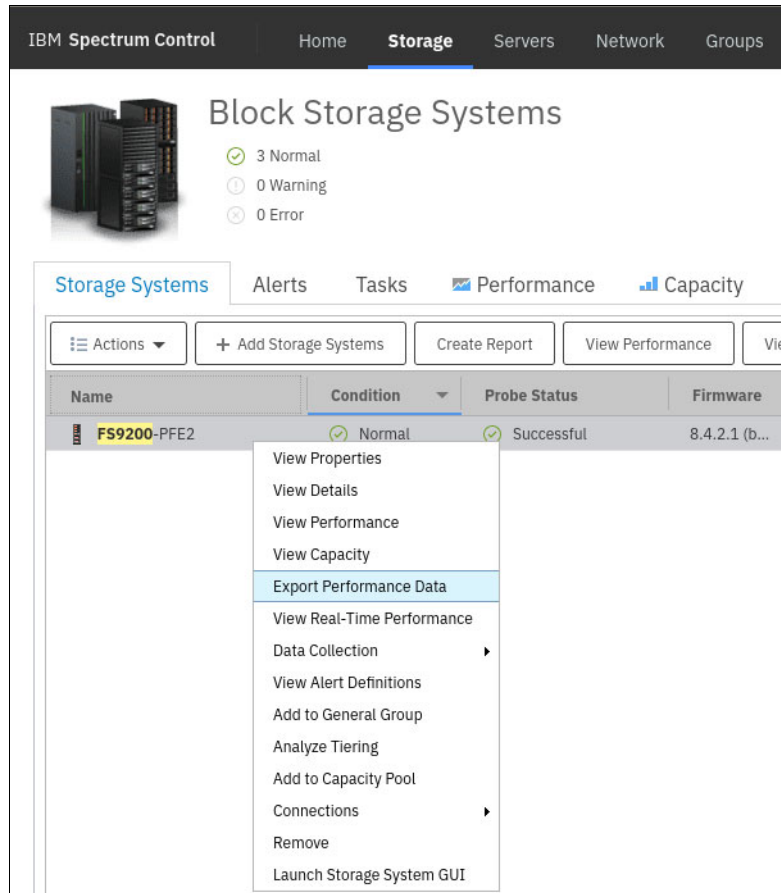

Figure 9-82 IBM Spectrum Control: Export Performance Data
2. Right-click the storage resource, and then click **Export Performance Data** (see Figure 9-82 on page 632).